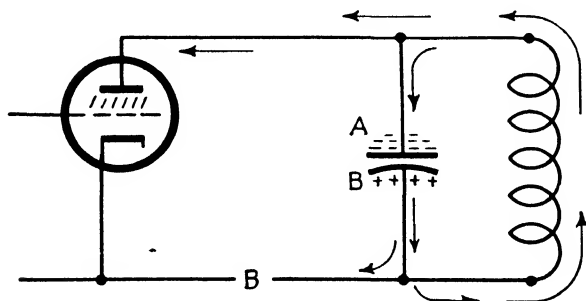

FIG. 431. The second surge now starts through the tank coil.
The surge returns to side A. The grid is so negative that no current can flow through the tube. The grid leak holds the electrons trapped on the grid until the heavy load of electrons on side B can surge back to side A. This makes A negative. Some electrons surge to the tube plate and make it very negative. This is the beginning of the second surge (see Fig. 431). The first and second surges are one cycle, or oscillation.
2. Is the grid positive or negative when the electrons flow from plate *B* back to plate *A*, as in Fig. 431?